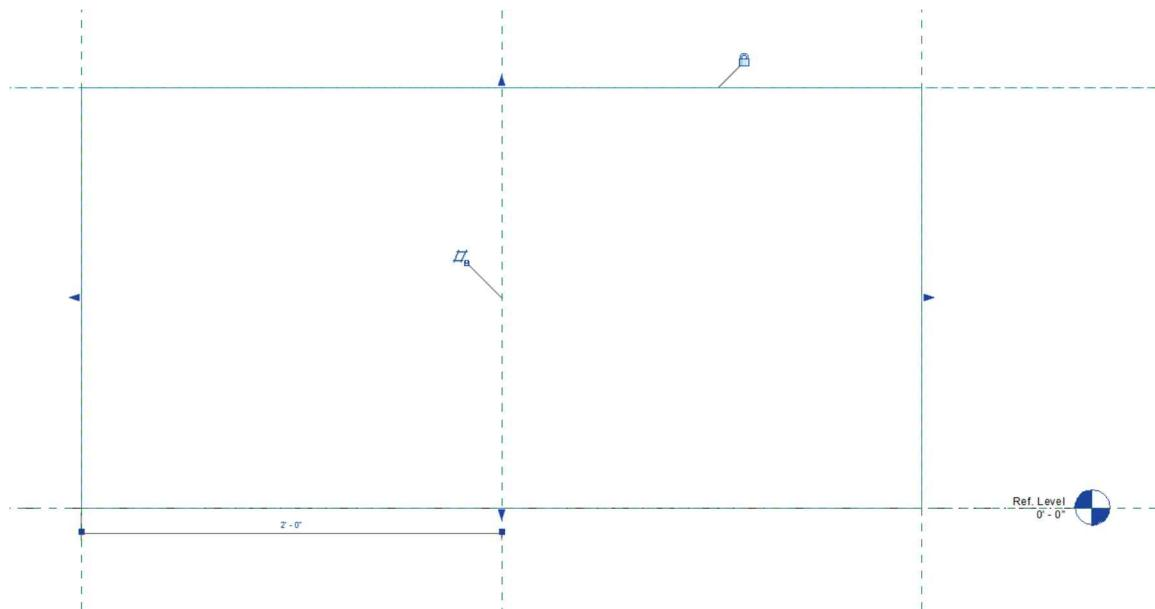

FIGURE 17-2.15 3D geometry selected, edit grips revealed
26. **Select the 3D box** to reveal the edit grips (Figure 17-2.15).